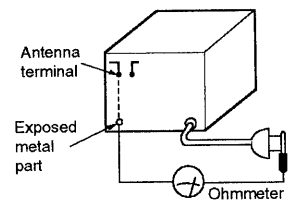

Fig. 1
- Measure the resistance value with ohmmeter between the jumper AC plug and each exposed metal cabinet part, such as screwheads, antenna, control shafts, handle brackets, etc. Equipment with antenna terminals should read between 3M Ω and 5.2M Ω to all exposed parts*. (Fig. 1) Equipment without antenna terminals should read approximately infinity to all exposed parts. (Fig. 2)